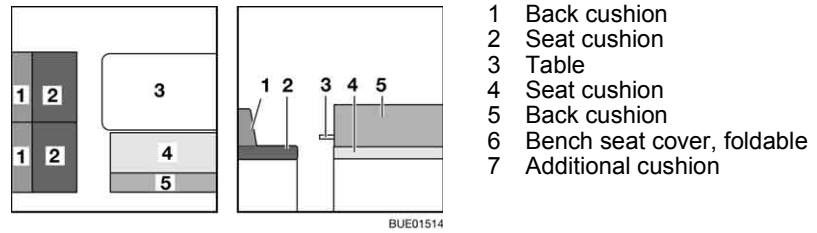

Fig. 138 Prior to conversion
- Convert the table (Fig. 138,3) to a bed foundation (see section 6.11).
- Remove and put aside the back cushions (Fig. 138,1 and Fig. 138,5) and the seat cushion (Fig. 138,2).